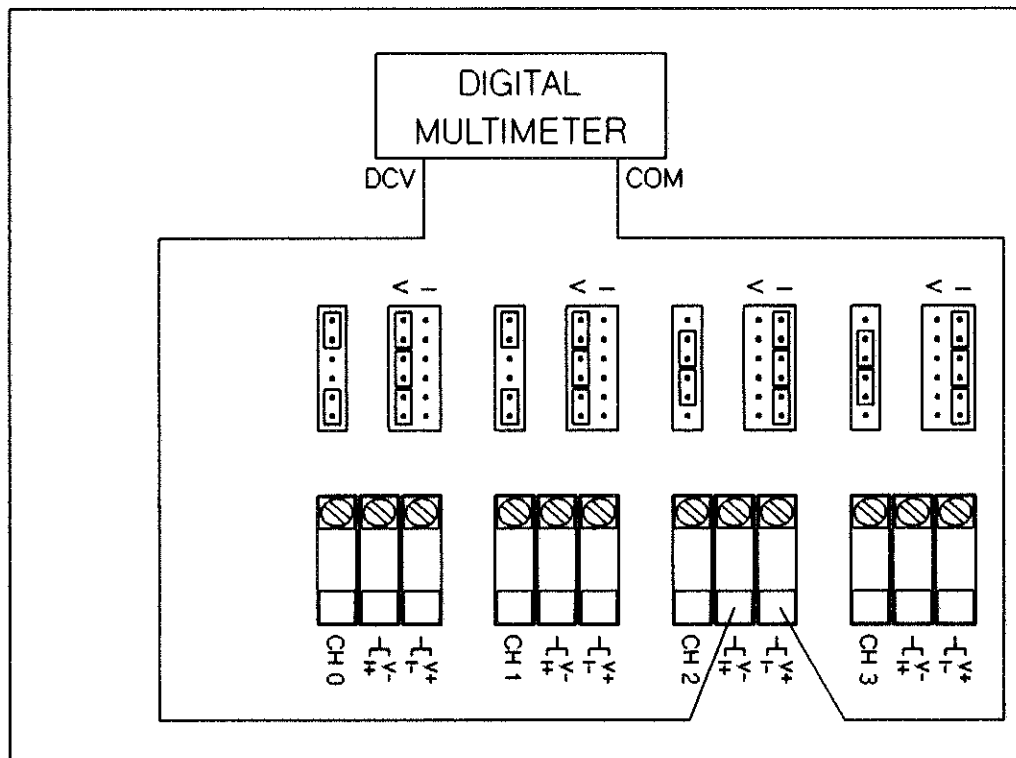

Figure 15-21 Current Calibration Connections
2. Set the multimeter to measure dc volts. On the terminal module, connect the multimeter DCV input to the I+ connection and connect the COM input to the I- connection of the channel to be calibrated. With these connections and the Sense jumpers on the terminal module set in the CAL position, the multimeter measures across a 250 ohm calibration resistor. The resistor is used in conjunction with the multimeter to calibrate the current output. The connections are shown in Figure 15-21.
*In Figure 15-21, Channels 2 and 3 are configured for current, and Channels 0 and 2 are configured for voltage. Use Channels 2 and 3 jumper configuration for current calibration*